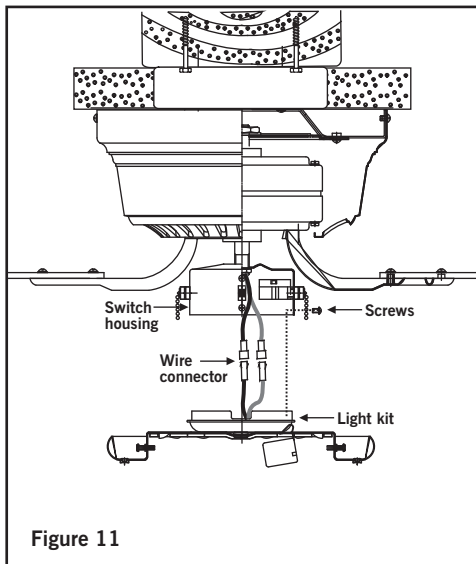

Figure 11
2. Carefully push all wires back into the switch housing. Attach the light kit fitter by aligning its keyhole slots with the three screw holes and the reverse switch on the side of the switch housing. Tighten the three screws securely to prevent the light kit from vibrating loose. (Fig. 11)